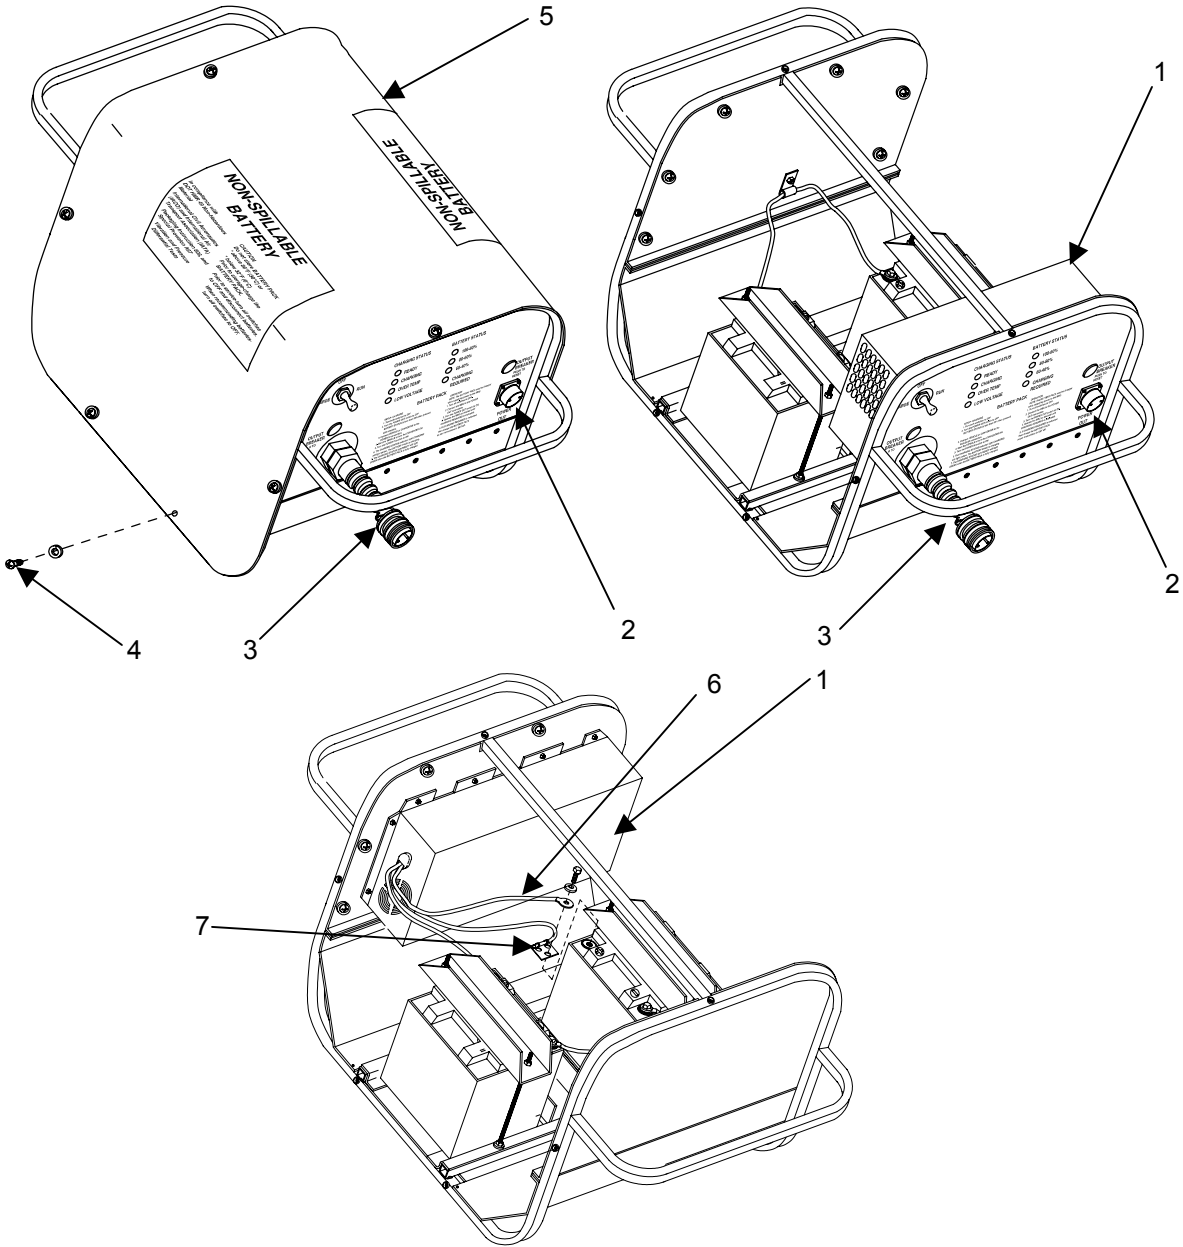

Figure 1. Inspect the Battery Charger
1. Inspect the front panel of the battery charger (**figure 1, item 1**).
2. Check the condition of the Power Out connector (**figure 1, item 2**) for dents or other damage that would prevent the proper connection of a cable connector.
3. Check the condition of the Power In cable (**figure 1, item 3**) for cuts or other damage that expose the wiring.
4. Remove the screws (**figure 1, item 4**) retaining the battery pack cover (**figure 1, item 5**), and remove the cover.
5. Inspect the battery charger (**figure 1, item 1**) for indications of physical damage, such as dents, corrosion, or burnt components.
6. Inspect the battery charger wires (**figure 1, item 6**) for damage such as chafed or burnt insulation, loose or corroded connections, or exposed wiring.
7. Inspect the temperature sensor (**figure 1, item 7**) for damage such as chafed or burnt insulation, loose or corroded connections, or exposed wiring.
8. If there are no indications of any faults with the battery charger (**figure 1, item 1**), install battery pack cover (**figure 1, item 5**) and retain with screws (**figure 1, item 4**).